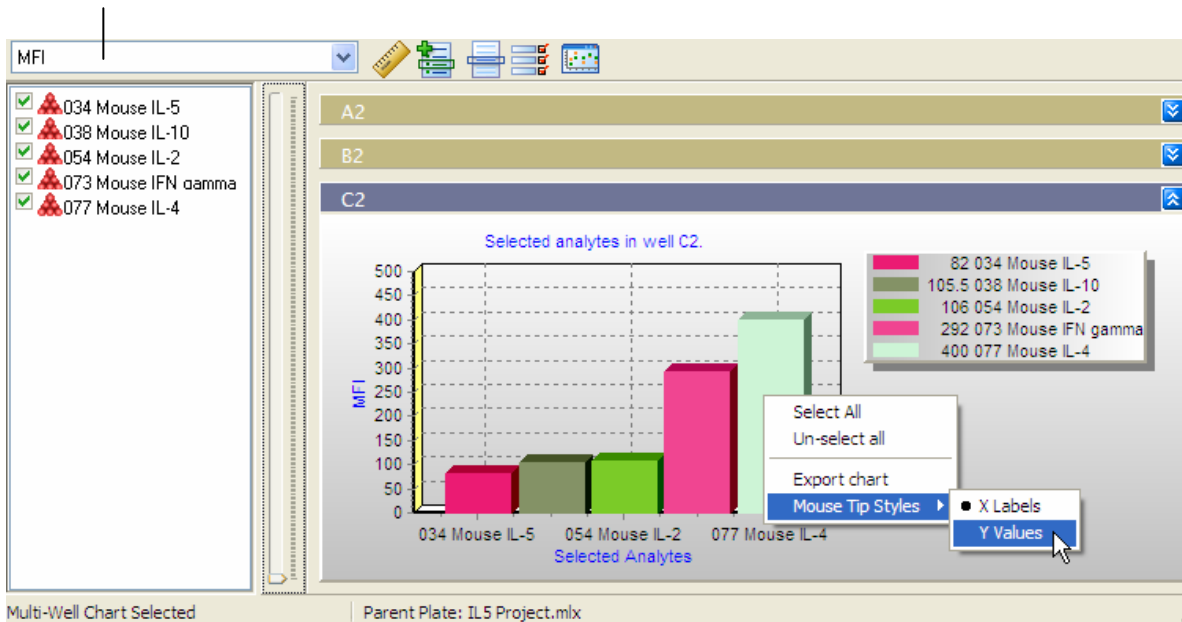

Figure 7.19 Multi-well chart
- b. To change the tool tip display, right-click a well and select **Mouse Tip Styles > Y Values** from the pop-up menu that appears (Figure 7.19).
2. To change the tool tip display, right-click a well and select **Mouse Tip Styles > Y Values** from the pop-up menu that appears (Figure 7.19).